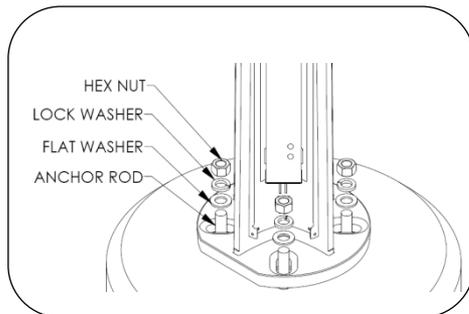

Fig.5 – Install pole and anchors
6. Install washer, lock washer and hex nut as shown in Fig. 5.